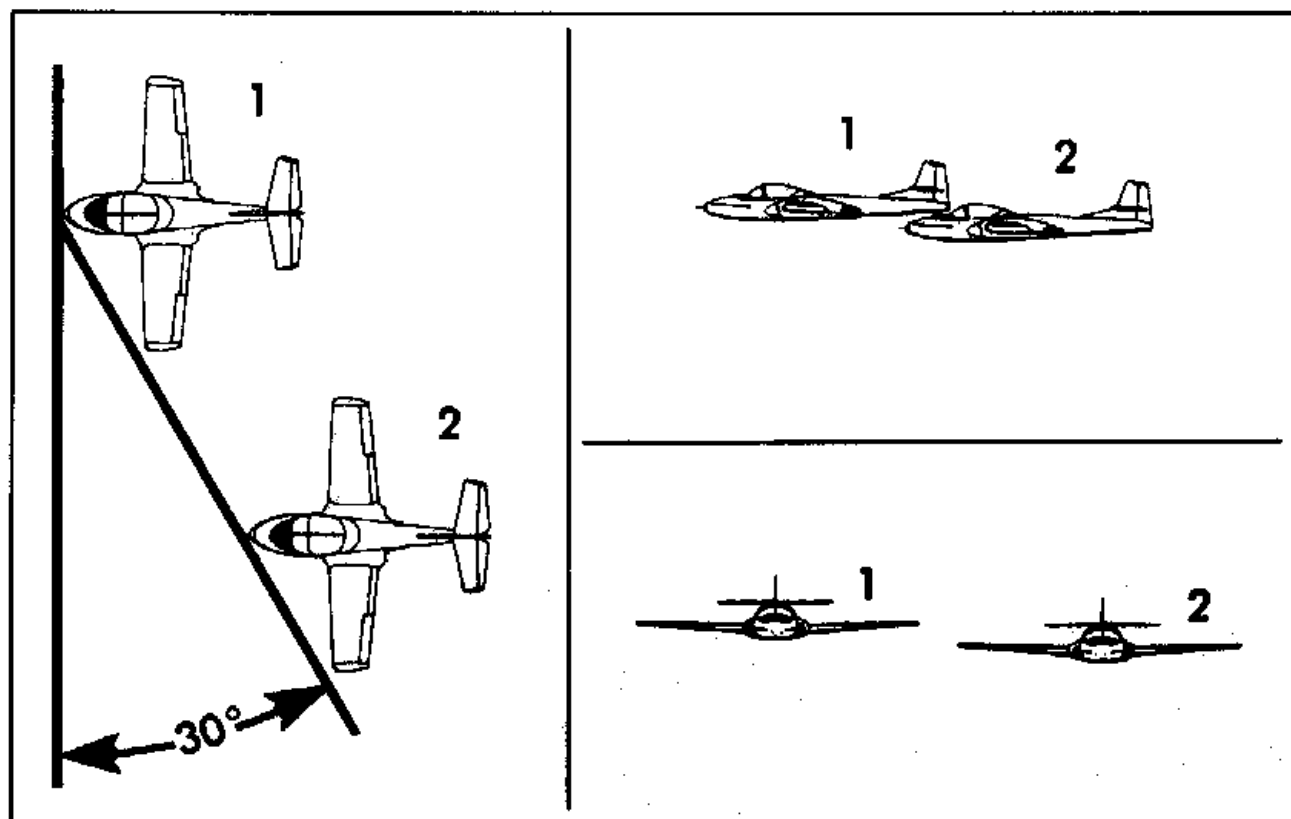
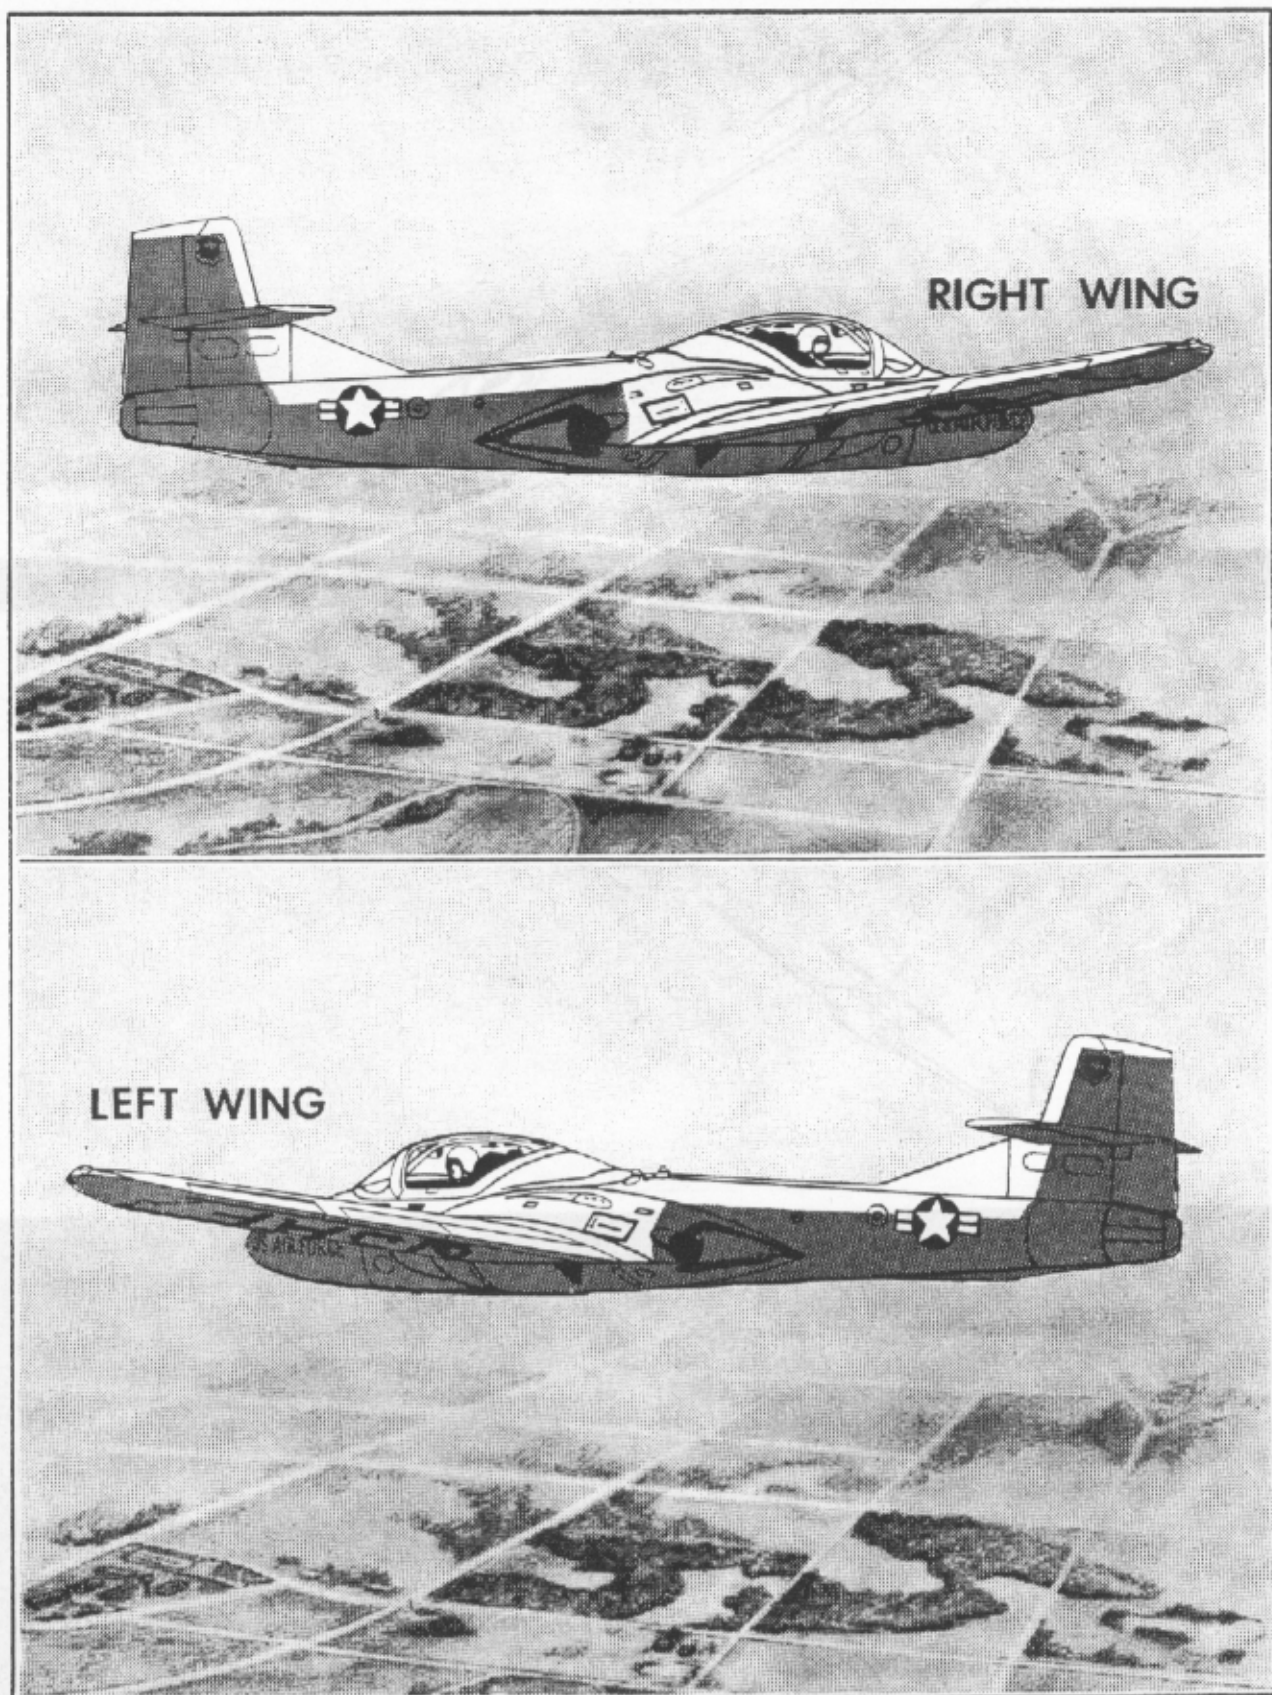

Figure 8.1. Fingertip Formation.
Figure 8.2. Fingertip Formation.
8.10.5. When the formation is safely airborne with a minimum of 100 knots, lead retracts the gear. As the wingman, raise your gear when you see lead's gear begin to retract and you are sure you will remain airborne. If you are overrunning lead, you may delay retracting your gear; never raise your gear before lead. When the gear handle is up and the airspeed reaches 110 knots minimum, lead raises the flaps. The wingman raises his or her flaps at the same time and assumes the fingertip position (figure 8.1).
8.13. Fingertip Formation. This type of formation flying will form a basis for all your formation flying (figure 8.1).
clearance (figure 8.1). One reference to maintain longitudinal position is to align the pilot's head in the lead aircraft with the outside flap hinge. As a vertical reference, you should see approximately one-half of the ejection triangle or approximately one-third of the top of the wing and two-thirds of the bottom (figure 8.2). When you have 3 feet of wingtip spacing, you will barely see the trailing edge of lead's opposite elevator. These are only a few of many references. Your IP will point out others. Do not stare at one reference. Look at the whole aircraft and clear through your lead. Scanning from reference to reference will help you detect small changes in position. You must be on the 30° line for your vertical and lateral references to be accurate.